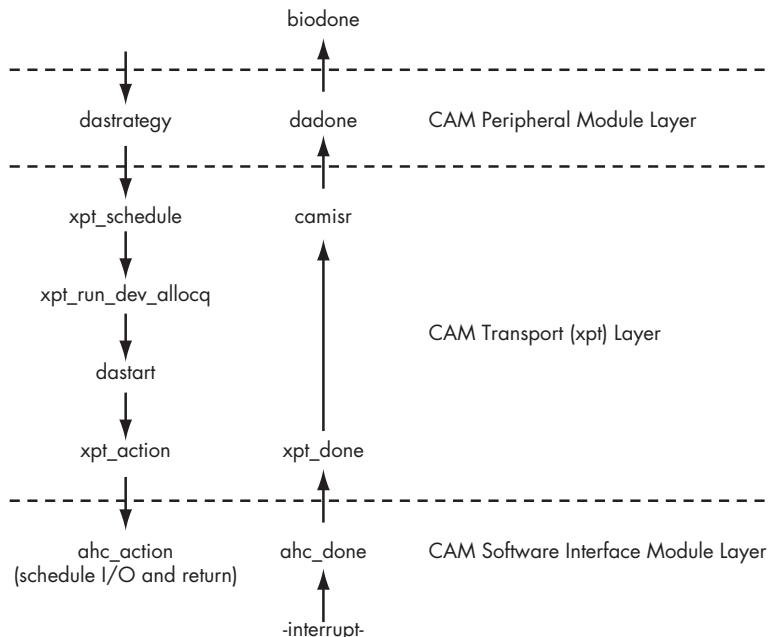

Figure 14-1: The path of an I/O request through the CAM subsystem
In Figure 14-1,¹ the kernel passes a block-centric I/O request to the da(4) peripheral module. As you would expect, this causes da(4)’s strategy routine (`dastrategy`) to execute.
¹ Figure 14-1 is adapted from *The Design and Implementation of the FreeBSD Operating System* by Marshall Kirk McKusick and George V. Neville-Neil (Addison-Wesley, 2005).